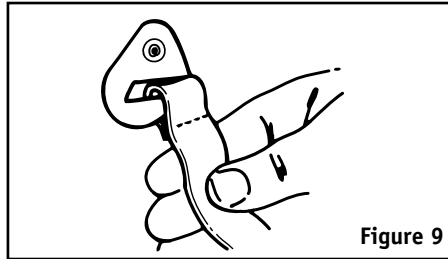

Figure 9
1. Attach chin strap to inner shell by sliding chin strap loop over hook. (Figure 9)